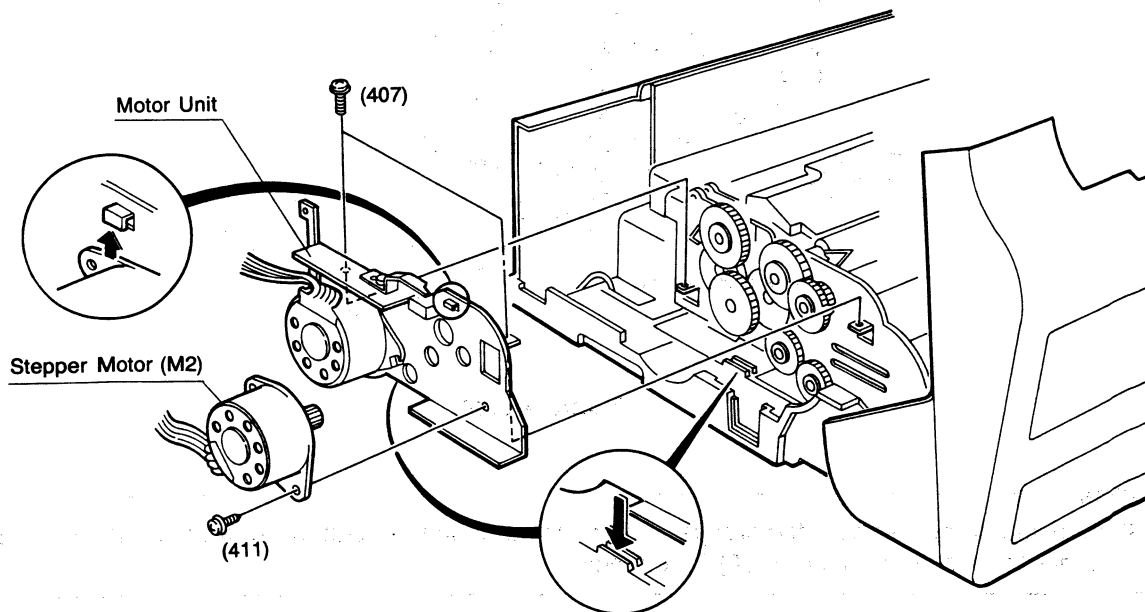

Figure 4.3.42
- (1) Open the receiving unit.
- (2) Remove the covers. (See paragraph 4.3.1.1.)
- (3) Remove two screws (407) and take out the motor unit. (See Figure 4.3.42.)
- (4) Remove the receiving idler gear (190).
- (5) Remove the motor idler gear (153) (for transmitting).
- (6) Remove the E-Ring (413) and then take out the feed gear (124) (for transmitting).
- (7) Take out the feed gear (124) (for receiving).
- (8) To reinstall, reverse the removal procedures.